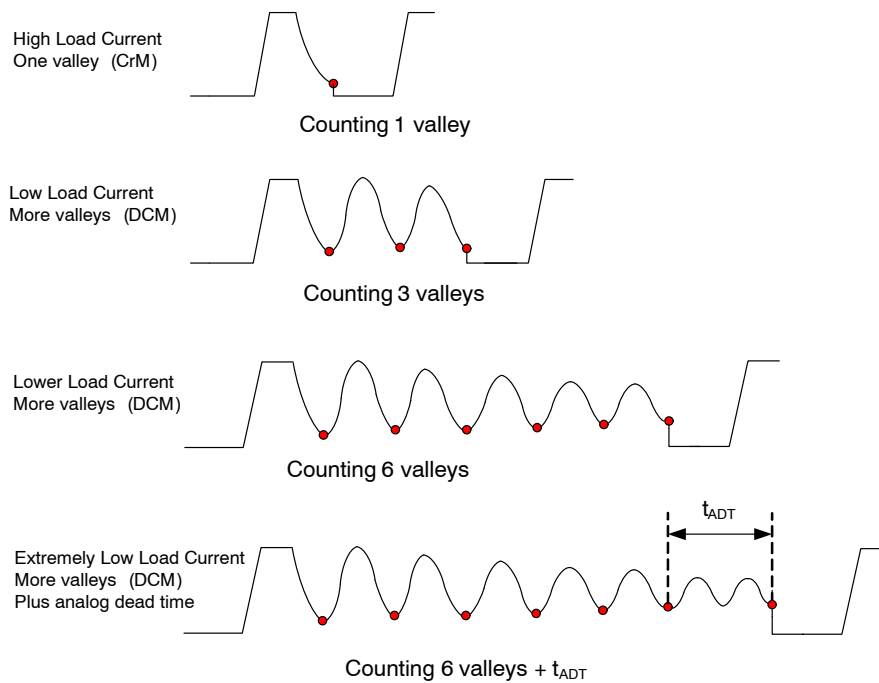
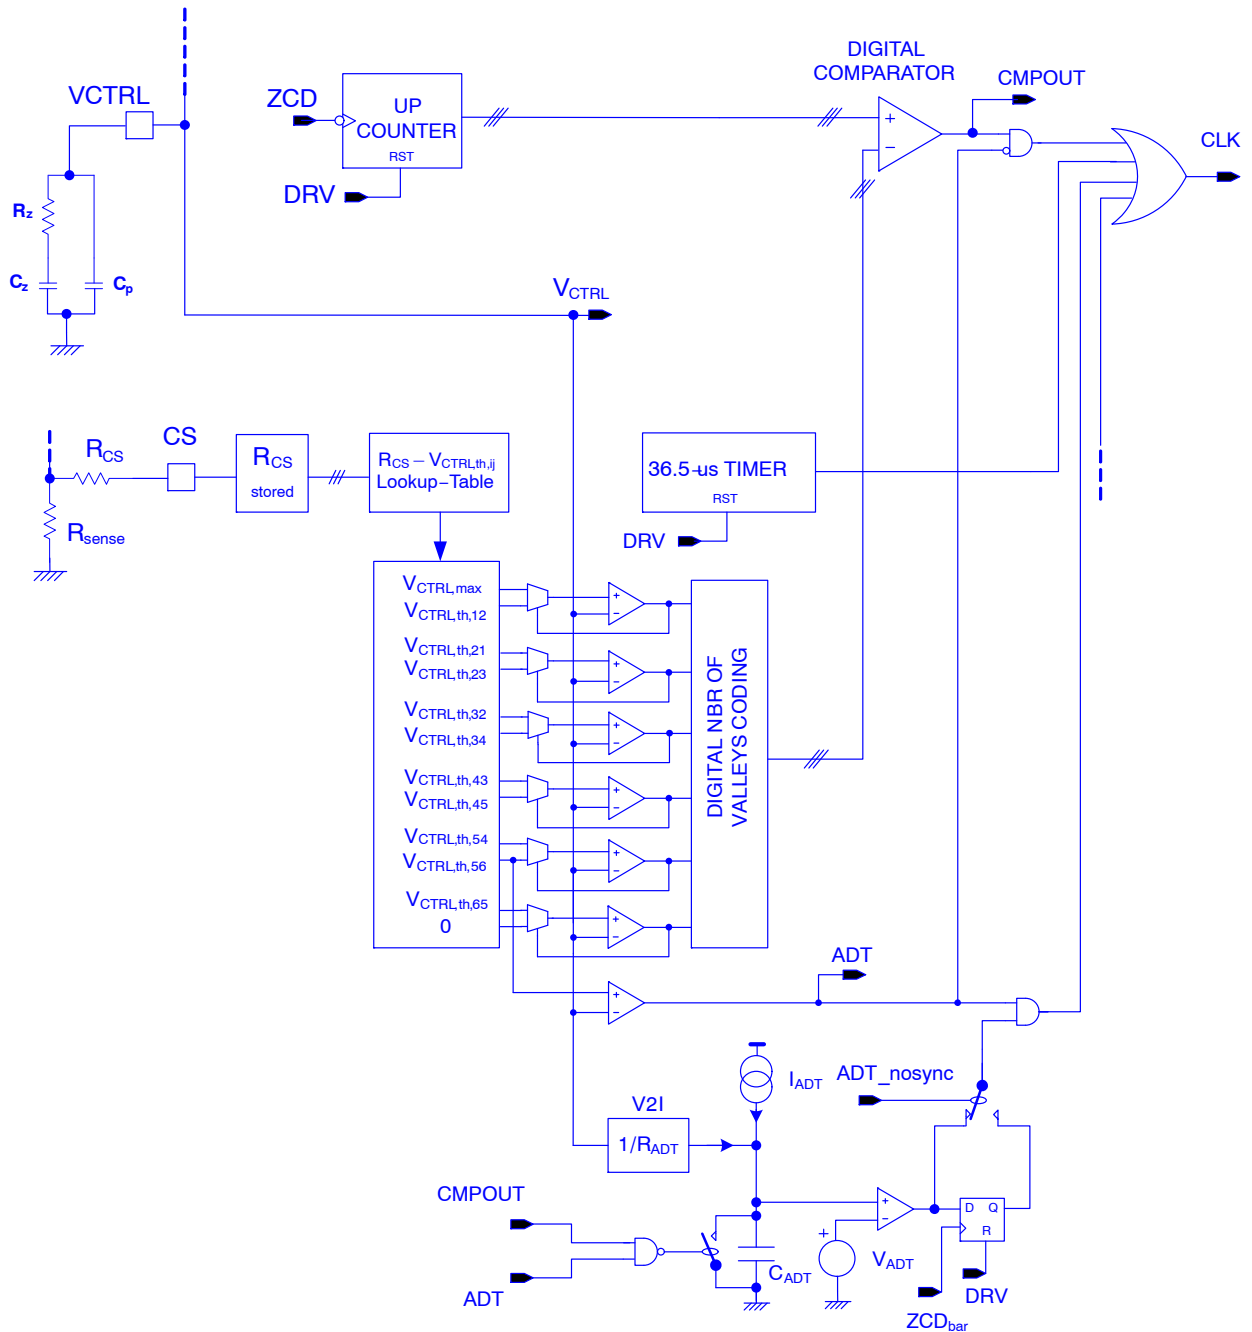
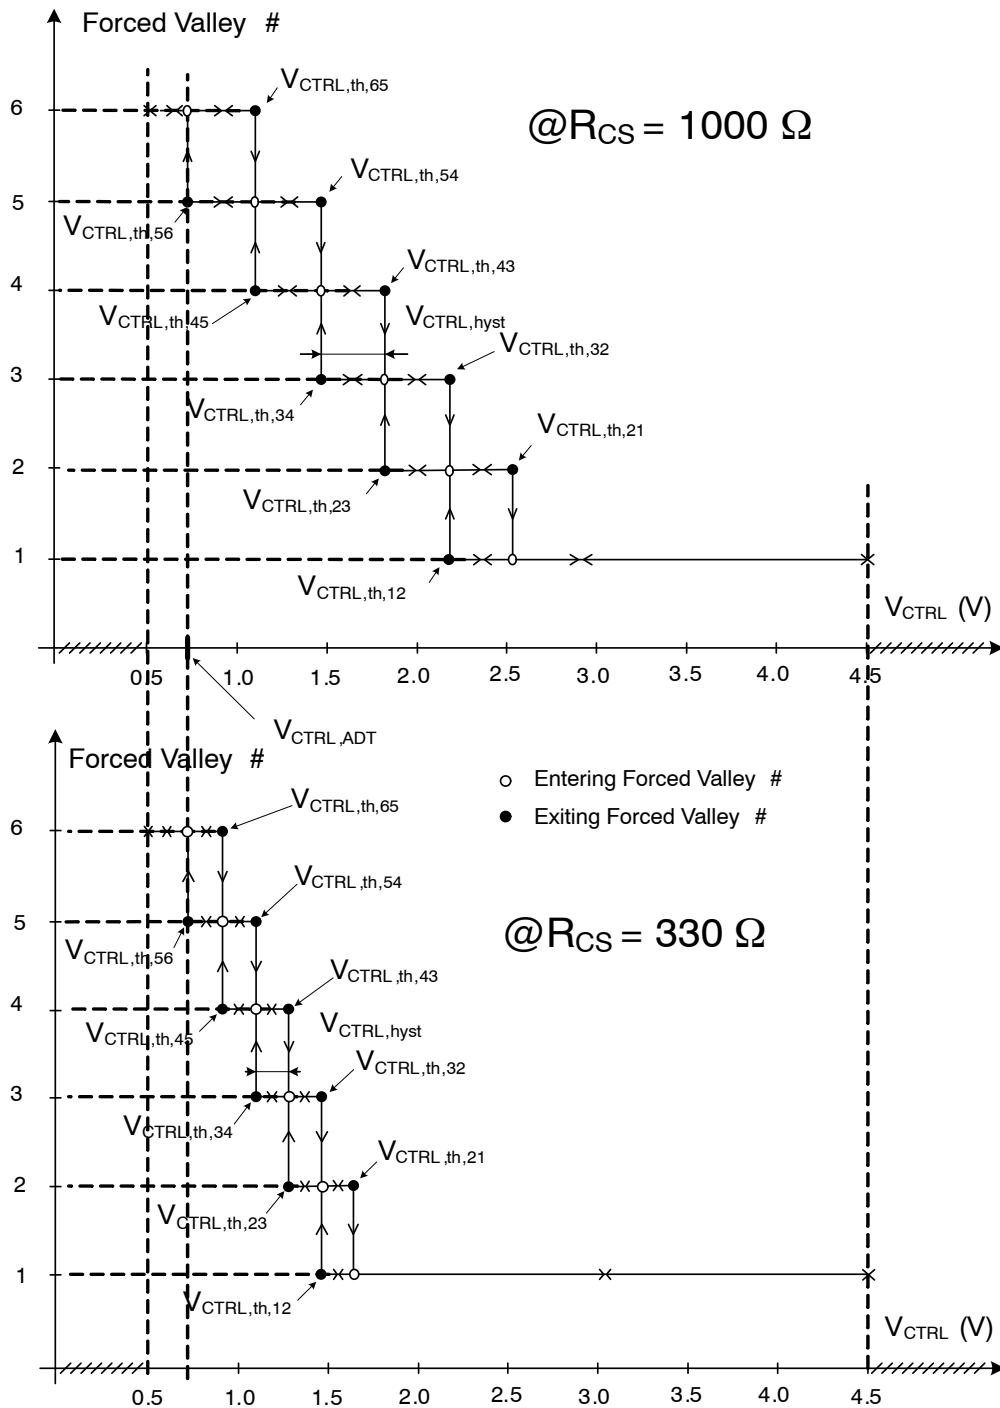

Figure 3. Valley Switching Operation in CrM and DCM Modes Seen Through Power MOSFET Drain Voltage
Figure 4. Valley Count Turn-on Block Diagram
Figure 7. Forced Valley Number versus VCTRL Pin Voltage For a Two Different RCS Values of the Mandatory List {150 Ω, 330 Ω, 620 Ω, 1000 Ω}
- **Valley Count Frequency Fold-back:** NCL2801 is designed to drive PFC boost stages in so-called Valley Count Frequency Fold-back (*VCF*). In high load current condition, the circuit classically operates in *Critical conduction Mode (CrM)* also called 1st valley switching. When output power is decreasing, if a threshold is reached (determined by sensing the CS pin impedance during initial power up), a dead time based on a number of valleys is added. The number of valleys will increase, each time a dead time window (based on V_{CTRL} value) is entered. By construction, this counting process will avoid valley hopping during the mains voltage period. If the output power continues decreasing and the 6th valley is reached, extra “analog” dead time will be added based on a voltage ramp (see Figure 4). On-time will be synchronized with a valley. A timer will clamp the total switching period to not exceed 36.5 μ s (the switching frequency will never go under about 27.4 kHz). The switching frequency depends on output voltage, input voltage, and boost inductor value, and increases as the load power increases. Hysteresis is added to the V_{CTRL} control windows to avoid valley hopping during steady state conditions. *VCF* maximizes the efficiency at both nominal and light load. Similarly to *FCCrM* controllers, an internal circuitry allows near-unity power factor even when the switching frequency is reduced.
valley number count up to 6 valleys (the number of valleys between end of inductor demagnetization and power MOSFET turn-on determines the dead time value). After counting is done, the power MOSFET turns on at drain voltage valley. When 6th valley is reached and VCTRL voltage stays under 0.77 V, an extra “analog” dead time is added based on a voltage ramp (see Figure 4). The added analog dead time t_{ADT} is based on 0.77 V minus VCTRL value. t_{ADT} will be equal to zero when $(0.5\text{ V} - V_{CTRL}) = 0\text{ V}$ and will increase monotonically versus VCTRL decreases while VCTRL is under the 0.77 V threshold corresponding to $V_{CTRL,th,56}$. The analog dead time added t_{ADT} will equal typically 20 μs when $V_{CTRL}=0.5\text{ V}$.
As illustrated in Figure 3, under high load conditions, the boost stage is operating in CrM (only one valley is counted before turning on the power MOSFET). The second example shows a DCM state of operation where 3 valleys have been counted before turning on the power MOSFET. The third example shows a DCM state with lower output power than the previous one where 5 valleys have been counted before turning on the power MOSFET. The fourth example shows how additional dead time is added after 6th valley.
means of counting the falling edges of the ZCD signal until the counter reaches the number of valleys set by the window in which the VCTRL pin voltage is (see Figure 4). The 3-bit counter allows to work “Valley synchronized” up to 6 valleys. When the 6th valley is reached, and VCTRL is lower than 0.770 V ($V_{CTRL,th,56} = 0.770$ V whatever frequency foldback threshold setting), an additional analog dead time will be added to the 6 valleys dead time and there will be valley synchronization turn-on of the power MOSFET ($ADT_nosync = 0$ by default) based on falling edge of ZCD signal. The total dead-time (number of valleys and extra analog dead-time) will not exceed 36.5 μ s. As a result of this timer the minimum switching frequency will not go under 27.4 kHz.
There will be a different DCM to CrM threshold than CrM to DCM making an hysteresis to avoid valley hopping (see Table 7 and Figure 4).
As shown in Figure 7, the forced number of valleys, shown in the Y-axis, depends on 5 VCTRL pin voltage windows,
results from output power decrease. We can also mention looking at Figure 7 and the specified frequency foldback thresholds of Table 7 that $V_{CTRL,th,56}$ which is the V_{CTRL} threshold at which we force counting 6 valleys, has always the same value. This threshold is also called $V_{CTRL,ADT}$ because when V_{CTRL} pin voltage falls under this threshold, an analog dead-time starts to be added to the dead-time determined by counting 6 valleys. The lower V_{CTRL} pin voltage goes under $V_{CTRL,ADT}$ threshold, the more analog dead time is added. An example on how the analog dead time can be added is shown in the circuit of Figure 4 and the correspond power MOSFET drain voltage is shown in Figure 3.